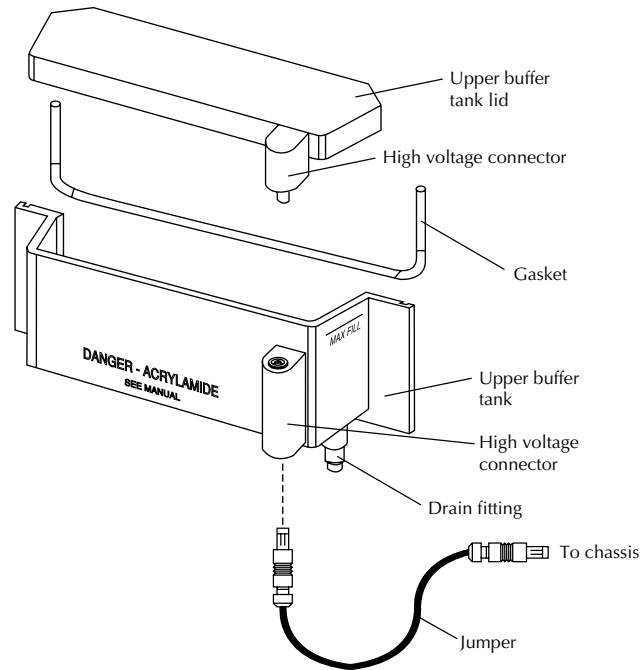

Figure 2-11. Upper buffer tank connections.
10.	<p>Open the instrument door and place the lower buffer tank into position at the base of the heater plate. The tank has two recessed areas where the rails rest when the assembled gel apparatus is installed.</p>  <p>Figure 2-11. The side of the lower buffer tank with the recessed areas is placed against the heater plate.</p>
5.	After sample loading, replace the upper buffer tank lid (Figure 2-11), close the instrument door, and start the run using Saga ^{GT} or the browser software.